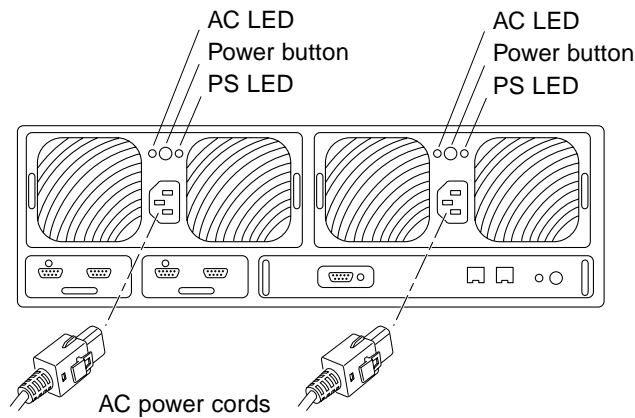

FIGURE 2-13 Connecting the Power Cords
- 8. Attach the two power cords to the two power and cooling units on the back of the master unit (FIGURE 2-13).**
FIGURE 2-13 on page 2-21 shows the power button location. The AC and power supply (PS) LEDs on the power and cooling units will be green.